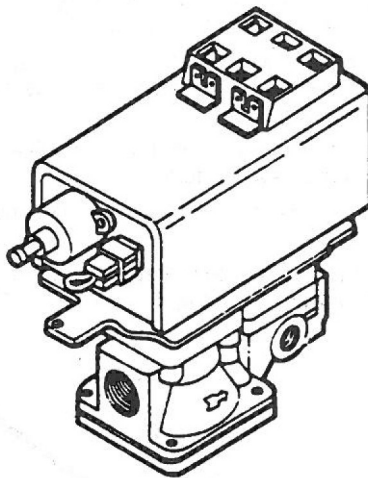

Figure 1
4. Remove and discard the screws that held the ignition module (control part) onto the mounting plate. Discard the old ignition module. See Figure 1.